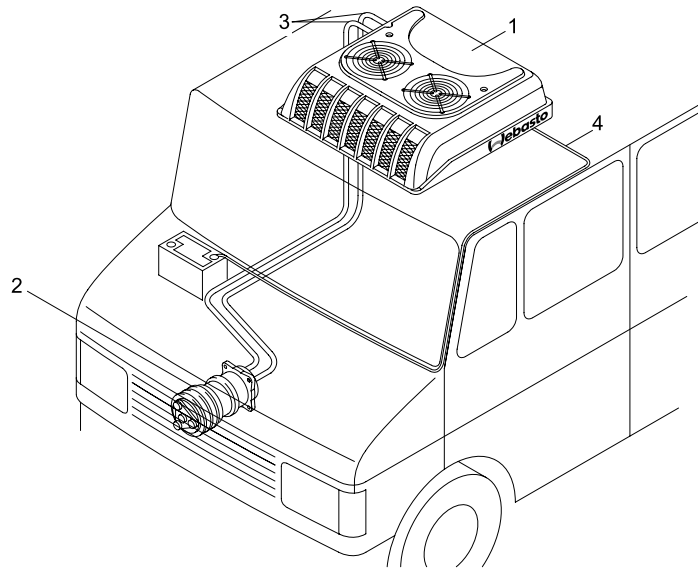

Fig. 2.1
The CC5 roof-top air-conditioning system (Fig. 2.1) consists of the roof-top air-conditioning unit (1) and the compressor (2). These components are connected by 2 hoses (3) thus forming the refrigeration system. The system is supplied with electrical power from the vehicle power supply via cables (4). The system is available in 12 V and 24 V versions to suit the vehicle's electrical system.